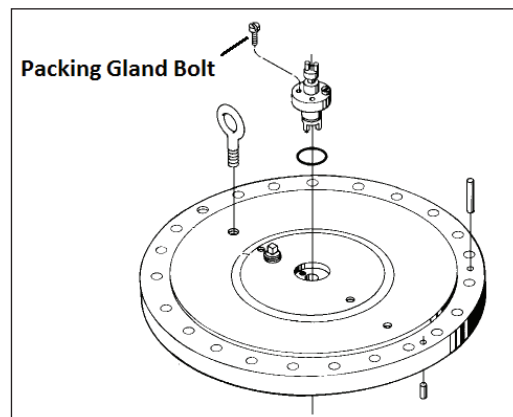

Figure 65
- Align the coupling on the packing gland with the link shaft and reinstall the packing gland on the cover (see Figure 65). Torque screws per Table 7.